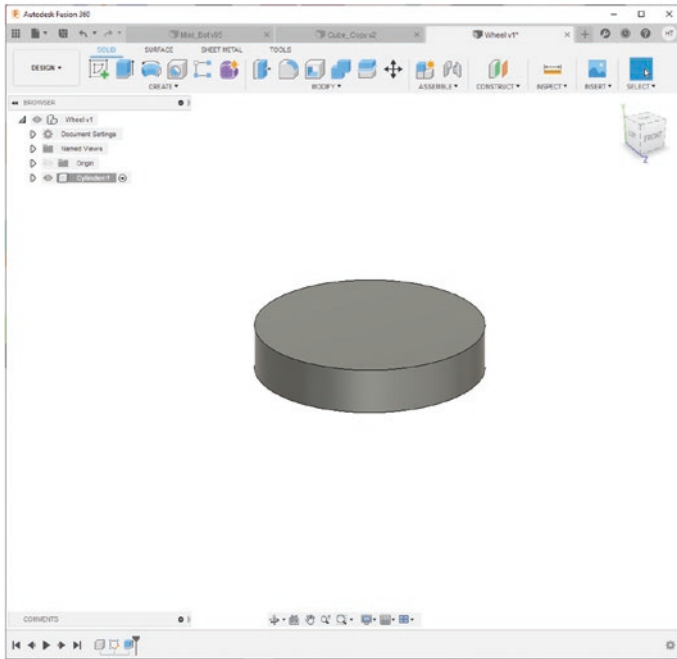

Figure 8-11. Create a new component and make a cylinder
2. Create a cylinder with a diameter of 50mm and a height of 10mm. See Figure 8-11.